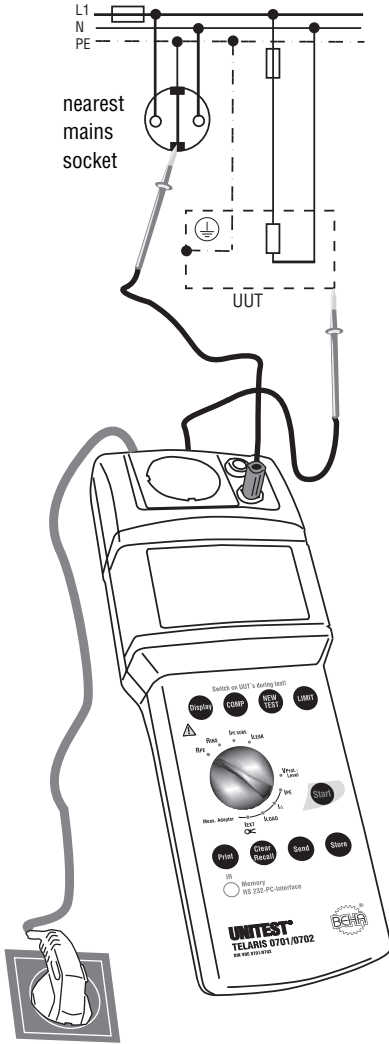

Figure 6.2: Measurement of the PE resistance for fixed installed appliances
- ▶ Connect the UNITEST TELARIS 0701/0702 via the mains plug (1) to a functional and correct wired and grounded mains socket.
- ▶ Turn the ‘Measurement function’ selection switch (15) to position ‘RPE’.
- ▶ For fixed installed appliances, connect the PE connection of a neighbouring socket with the blue ‘PE’ socket (5), please refer to Figure 6.2.
- ▶ Connect the PE test connection ‘Probe’ (2) to touchable, conductive appliance parts of the UUT, in compliance with Figures 6.2 or 6.3. Ensure a good contact with the surface of the casing parts.
- ▶ Press the key “Start” (9). The unit symbol which is blinking on the display is an indication for the active measurement procedure.
- ▶ Read the measurement value from the LC display (6). If the limit value display is active, the symbol ‘LIMIT’ (21) indicates that the limit value has been exceeded.
- ☞ The appliances displays the AC resistance of the PE resistance connection. The key “Display” (17) is used to subsequently display the measurement values for the positive and negative test current during the measurement (display symbol $\Omega+$ and $\Omega-$).
- ☞ The measurement results can be saved by pressing the key “Store” (10). For any references regarding saving of measurement values, please refer to sections 7.1 and 7.2.